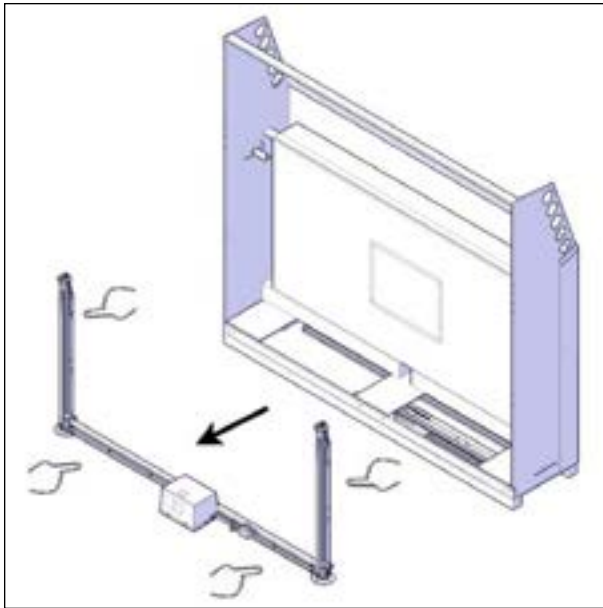

FIGURE 28: REMOVE MOTOR FRAME ASSEMBLY
- With the help of another worker, remove the motor frame assembly from the crate. Install one hand under the horizontal portion of the motor frame and the other hand on the vertical jack see Figure 28. Handle and carry the assembly with care, so that the jacks follow the natural bending of the U-frame. Install the motor frame assembly on a level surface and make sure it will not fall.